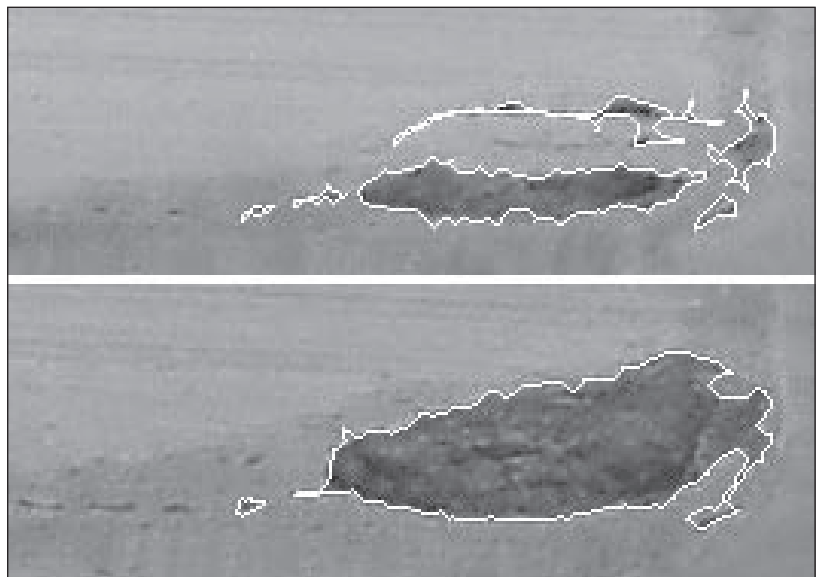

Figure 13—Example of program graphical results of two pitting stages on the same tooth.
Program for image processing. Except for image load, all program steps are automated, ensuring quality results. Even though the images are processed automatically, they can be graphically supervised by the operator (Fig. 13).
9. Boundaries drawing into cropped original image (Fig. 13).